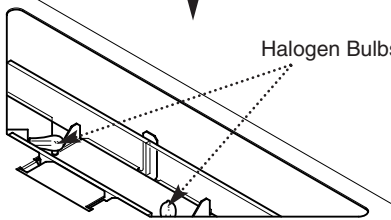

Fig. 82
3. Remove the bulb by pulling out from the ceramic bulb holder to disengage the pins (Fig. 82).